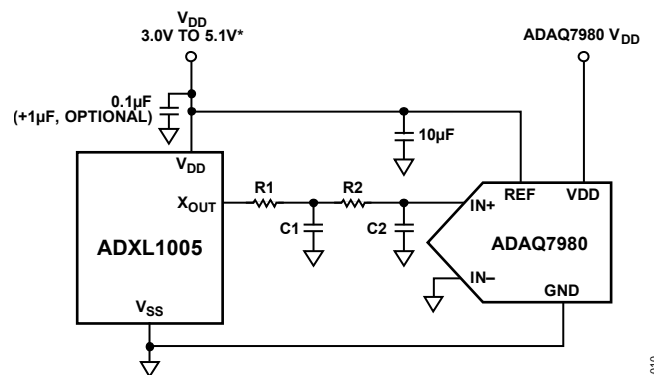

Figure 23. Application Circuit for the ADXL1005
See Figure 23 for an example of the interface, including components when measuring mechanical vibration from 0 kHz to 5 kHz. For a 5 kHz pass band, a single-pole resistor capacitor (RC) filter is acceptable. However, in some applications, use of a more aggressive filter and lower sample ADC sample rate is possible. The following components are recommended to form a 5 kHz low-pass RC filter at the output of the ADXL1005 when interfacing to an ADC, such as the AD7980: $R1 = 91\text{ k}\Omega$, $C1 = 330\text{ pF}$, $R2 = 0\text{ }\Omega$, and $C2$ is not required. A minimum ADC sample rate of 16 kHz is recommended to avoid aliasing. When using sampling rates less than the resonance frequency (typically 42 kHz), be aware and account for the effective gain at the output of the sensor due to the resonance to ensure out of band signals are properly attenuated and do not alias into the band.
See Figure 23 for an example of the interface, including components when measuring mechanical vibration from 0 kHz to 10 kHz. The following components are recommended to form a two-pole RC filter at the output of the ADXL1005: $R1 = 500\text{ }\Omega$, $C1 = 10,000\text{ pF}$, $R2 = 1\text{ k}\Omega$, and $C2 = 10,000\text{ pF}$. A minimum ADC sample rate of 200 kHz is recommended to avoid aliasing.